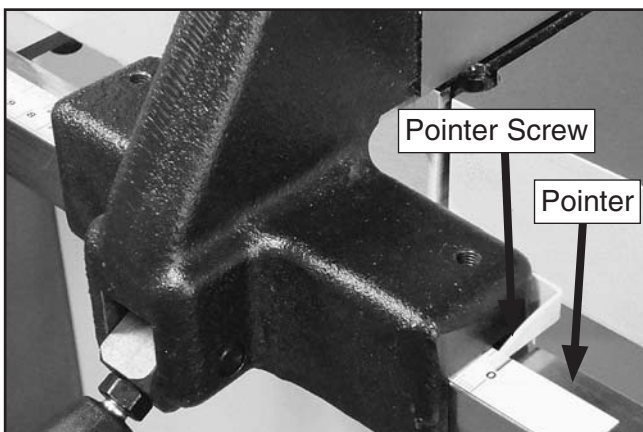

Figure 60. Calibrating fence pointer (adjustment screw out of view).
4. Loosen the pointer adjustment screw (**Figure 60**) and set the pointer in line with "0" on the measurement scale on the table.